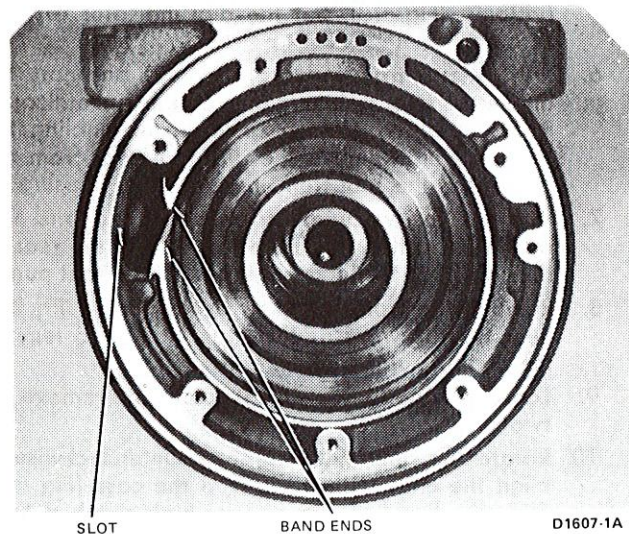

FIG. 15 Removing or Installing Band
10. Rotate the band 90 degrees counterclockwise to align the ends with the slot in the case (Fig. 15). Slide the band off the reverse-high clutch drum.